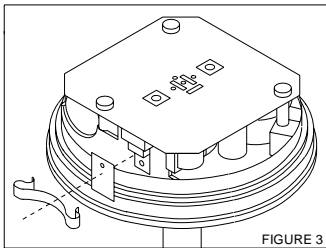

FIGURE 3
**FIGURE 3.** Lower the power supply onto the base with the three mounting holes lined up with the holes located on the three mounting studs. During this assembly operation, the transistor on the power supply has to be positioned on the outside of the transistor mounting boss. Secure the power supply to the mounting studs with enclosed self tapping screws.